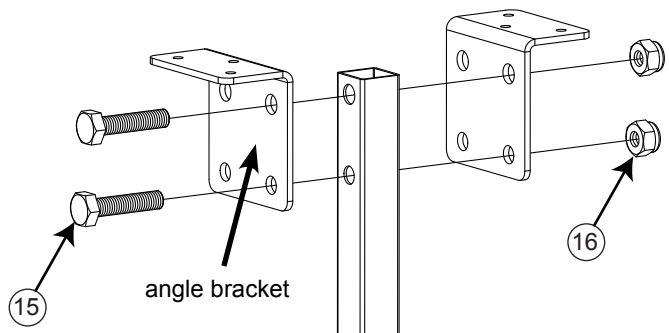

Fig. 10
10. Each support leg is mounted to the underside of the extension table using two angle brackets. Align the two holes in the support leg to the two holes in the brackets as shown in Fig. 10. Put one of the M10 x 45 hex head bolts through each hole in the leg and brackets. Thread an M10 nylon lock nut on each bolt and tighten with a 17 mm wrench. You will need to hold the head of the hex bolt with another 17 mm wrench to tighten the lock nut. Do not fully tighten the nuts; leave them just loose enough to be able to move the brackets.